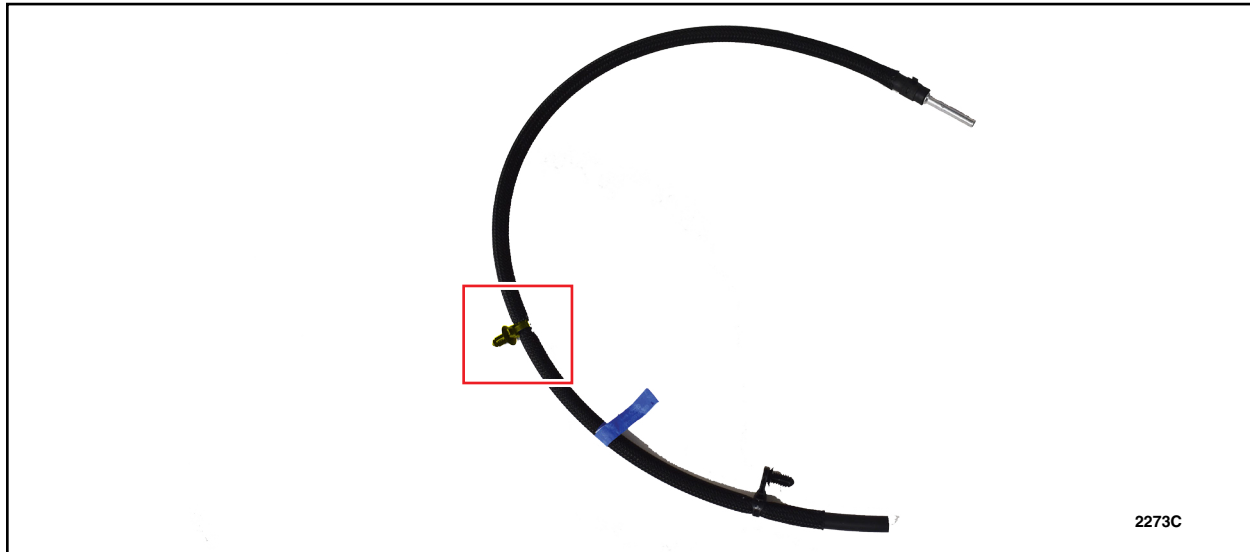

FIGURE 3
6. Remove the fir tree fastener highlighted in the figure below. See Figure 3.